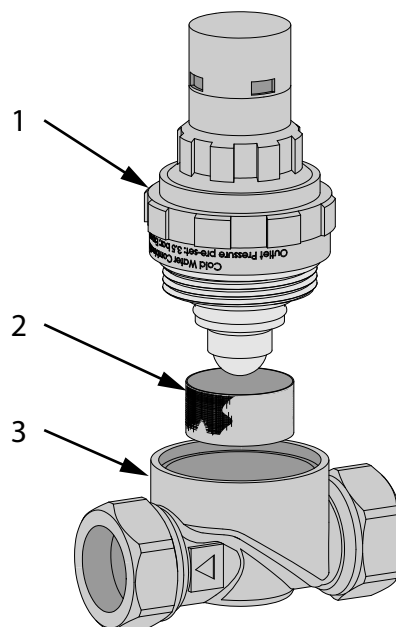

Figure 9: Pressure Reducing Valve assembly
- ▶ Remove the Pressure Reducing Valve head work to access the strainer mesh, clean and re-fit, see Figure 9, page 17.